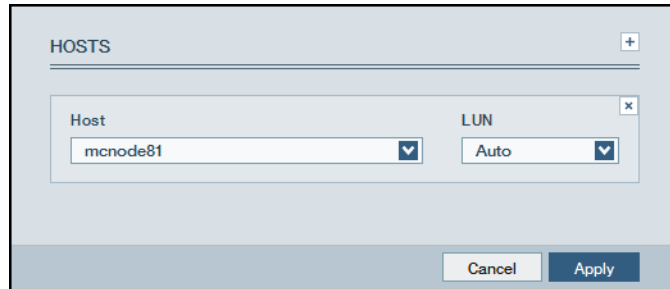

Figure 7-23 Select the host to map
- In the window that opens, select the new host from the menu and the LUN ID to map it to. Click **Apply** to map the volume, as shown in Figure 7-23.